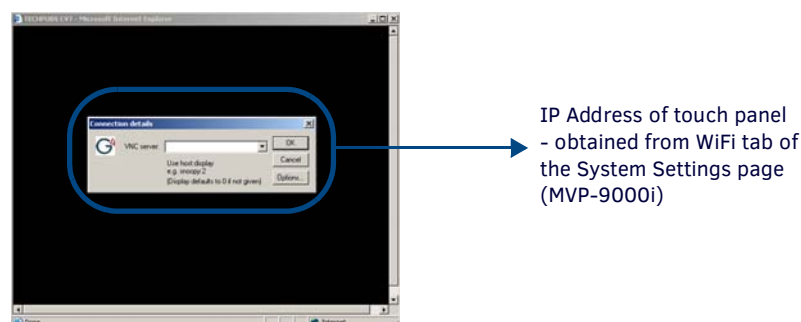

FIG. 45 Connection Details dialog
- Some situations might display a *Connection Details* dialog (FIG. 45) requesting a VNC Server IP Address. This is the IP Address not of the Master but of the target touch panel. Depending on which method of communication is being used, it can be found in either:
9. Enter the Web Control session password into the *Session Password* field (FIG. 45).